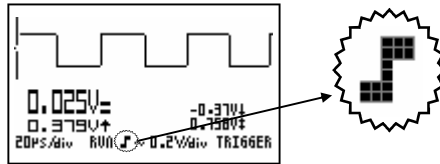

Fig 52
**Triggering on the falling slope (Fig. 52):** the signal will only appear when a falling slope is detected, i.e. the input voltage is higher than the trigger level and must descend under the trigger level.
**Triggering op de dalende flank (Fig. 52) :**
**Démarrage sur le flan descendant du signal (Fig. 52):**
**Triggering in der fallenden Flanke (Abb. 52):**